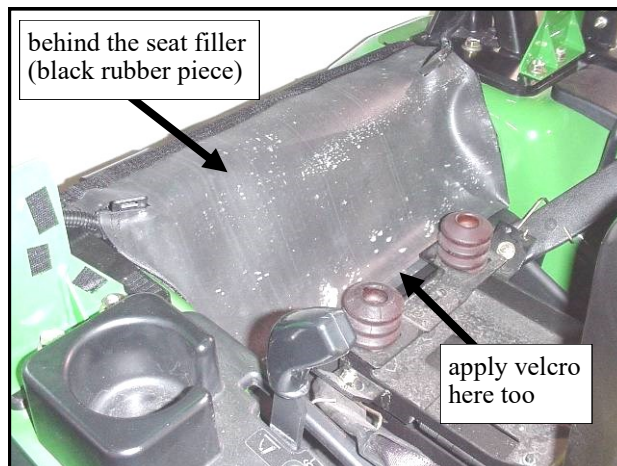
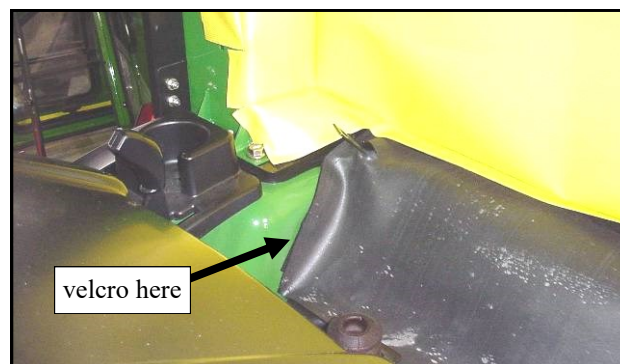

Fig. 2.1 Behind seat filler
Fig. 2.1.1 View from left side
**2.1** Note: adhesive-backed velcro should be applied to a clean, dry surface at room temperature. Tip the seat up if it's not already. Lay out the rubber filler as would seem appropriate then apply the self-adhesive hook velcro where needed (i.e.: vehicle fenders, etc.). See figures 2.1 and 2.1.1. Note: fig. 2.1.1 shows a soft side rear curtain in place. The seat belt storage brackets should fit into the clearance slits provided in the rubber. Adhere the behind seat filler to the newly installed velcro strips.